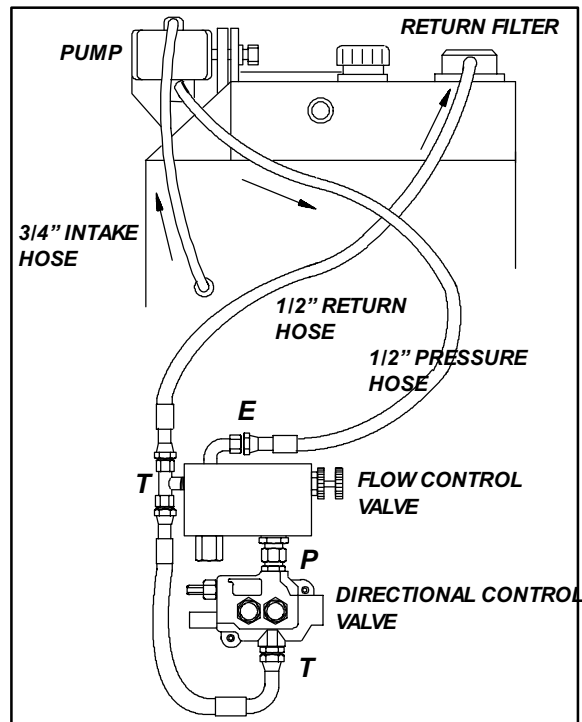

Fig.9. Connecting of the hoses.
1. Connect the 3/4" inlet hose coming from the hydraulic oil tank to the upper side of the pump, fig.9.